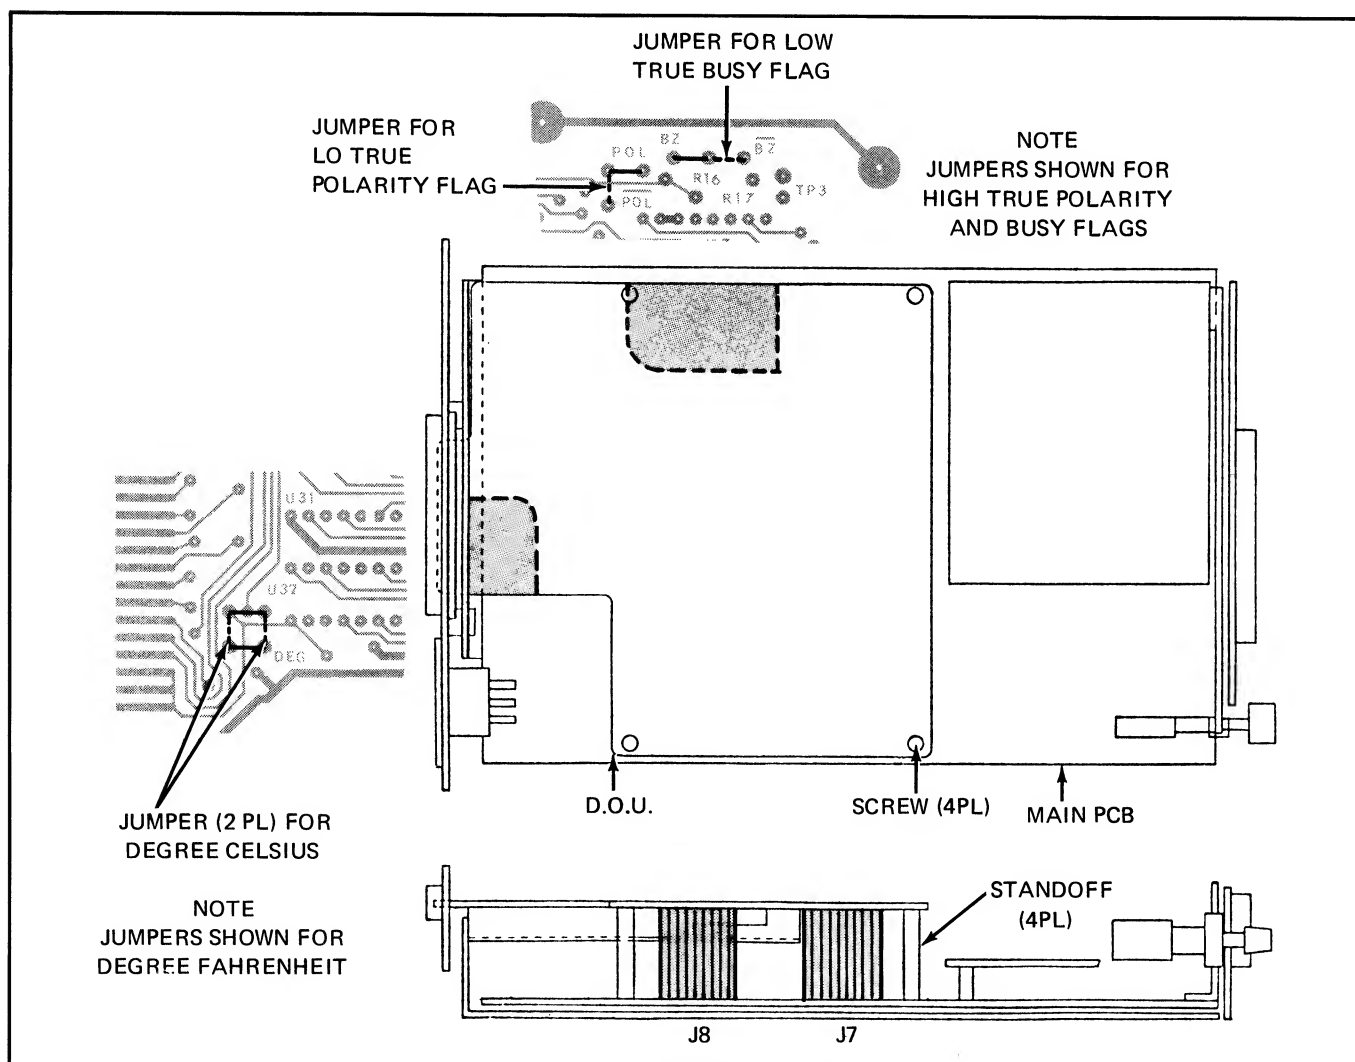

Figure 6-9. DOU INSTALLATION ILLUSTRATION
6-69, Use the following procedure to install the Digital Output Unit in the 2100A. Refer to Figure 6-9 for item locations:
- c. Position the DOU on the Main PCB as shown in Figure 6-9.
- e. Position the AOU on the main pcb as shown in Figure. 6-9.
- i. Connect the five color-coded leads from the AOU rear panel to the AOU pcb as indicated in Figure 6-9.
- Adjust R24 (Internal Offset) on the AOU for  $0 \pm 50 \mu V$  on the DVM. See Figure 6-9. The DVM should be on the lowest dc voltage range with filter out.